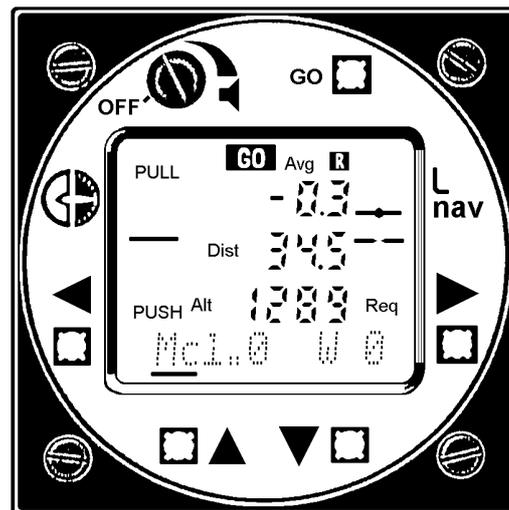

FIGURE 2
6. **MAIN SCREEN.** Referring to **Fig 2**, from top to bottom the numbers are: